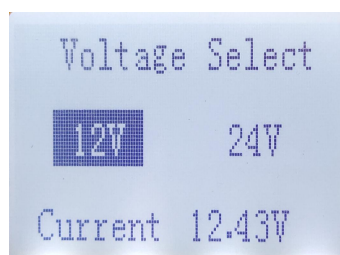

Figure 1
(1) Check the battery label voltage, and select a voltage by pressing the right or left button on the battery label voltage. If the battery identifier is 12V, select 12V. Figure 1: